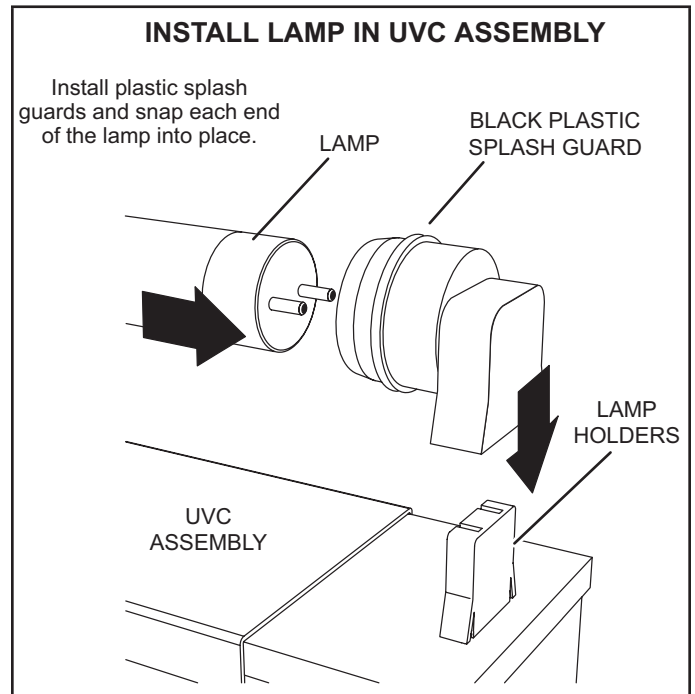

FIGURE 41
- 5 - Remove and retain the (3) mounting screws securing the UVC assembly. Carefully remove the complete UVC assembly out through the blower access door. See FIGURE 41.